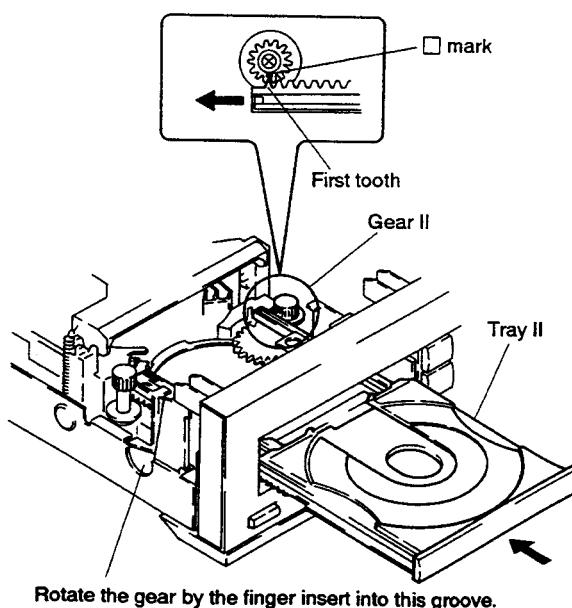

Fig. 2-15
Note 1: When opening the tray II manually, insert a finger into the groove shown in Fig. 2-15, and fully rotate the idler gear counterclockwise. (As for the idler gear, refer to Fig. 1-1)
(2) As shown in Fig. 2-15, adjust the \square mark on the gear II to the first tooth of the tray II, then push in the tray II slowly.
Note: When opening the tray I manually, insert a finger into the groove shown in Fig. 2-15, and rotate the idler gear clockwise, and tray II is clamped.